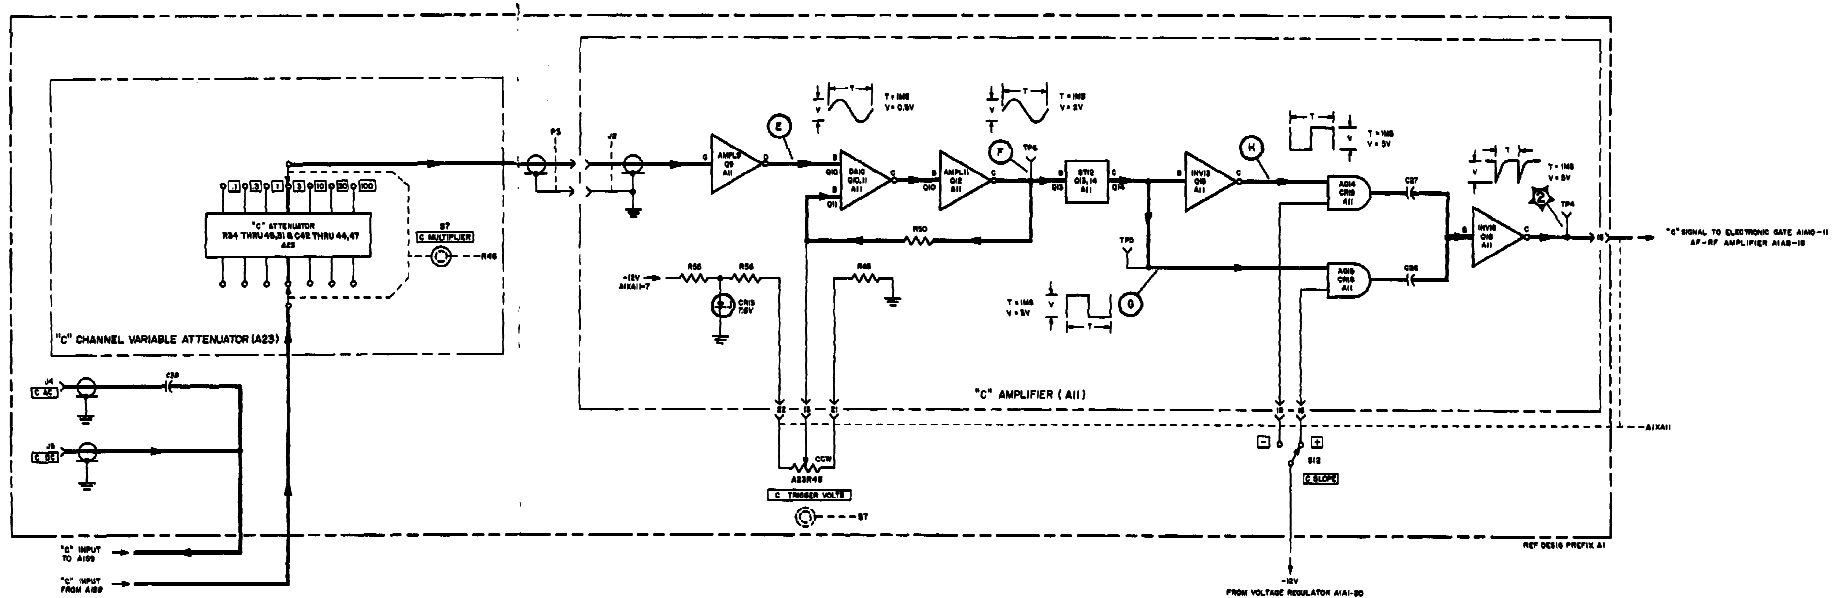

Figure 4-9. "C" Amplifier, Functional and Servicing Block Diagram
a. C AMPLIFIER FUNCTIONAL DESCRIPTION. — The C amplifier consists of the channel C variable attenuator and trigger level control A1A23, and part of af-rf amplifier A1A11. The channel C variable attenuator is mounted on the front-panel C MULTIPLIER switch; the af-rf amplifier is constructed on one-half of printed circuit board assembly A1A11. This functional section receives the C input signal from the C AC and C DC input connectors, attenuates, amplifies, and shapes this signal for use throughout the counter. The C amplifier functional and servicing block diagram is shown in figure 4-9.
c. USEFUL ILLUSTRATIONS. — Illustrations useful in maintaining this functional section are: figures 4-9, 5-8, 5-9, 5-12, 5-47, and 5-65.
1 cont)	Apply a 10 volt rms, 1000-cps sine-wave signal to the C AC connector. Observe the waveform at test point E and compare with that shown in figure 4-9.